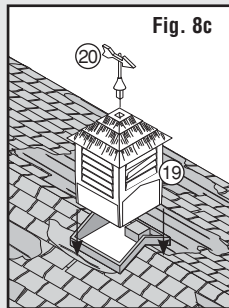

Fig. 8c
- Glue Cupola (19) and Weather Vane (20) to Roof (Fig. 8c).